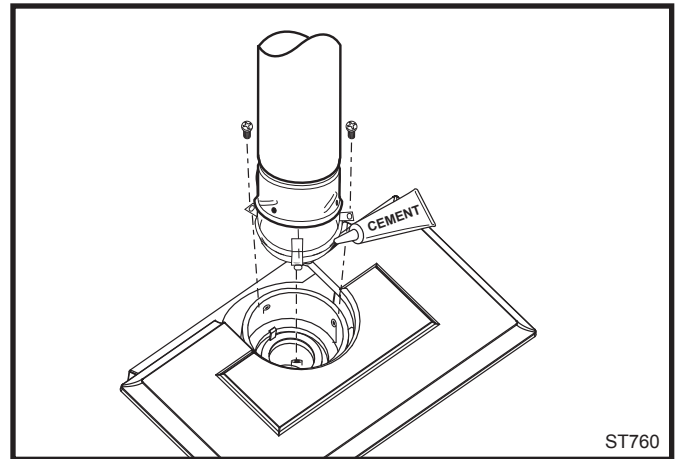

Fig. 18 Attach inner assembly to flue collar.
- Run a bead of sealant around the bottom end of the starter pipe and attach the assembly to the stove using three 1/4-20 x 3/8" Phillips screws provided in the parts bag. (Fig. 18)